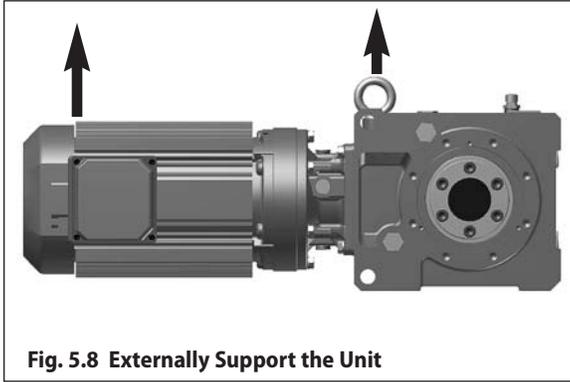

Fig. 5.8 Externally Support the Unit
**Step 1** – Before removing the reducer/gearmotor from the driven shaft, externally support the unit so that all its weight is removed from the driven shaft (see Fig. 5.8). **Caution: Do not raise the unit too high. It may cause the shaft to bind.**